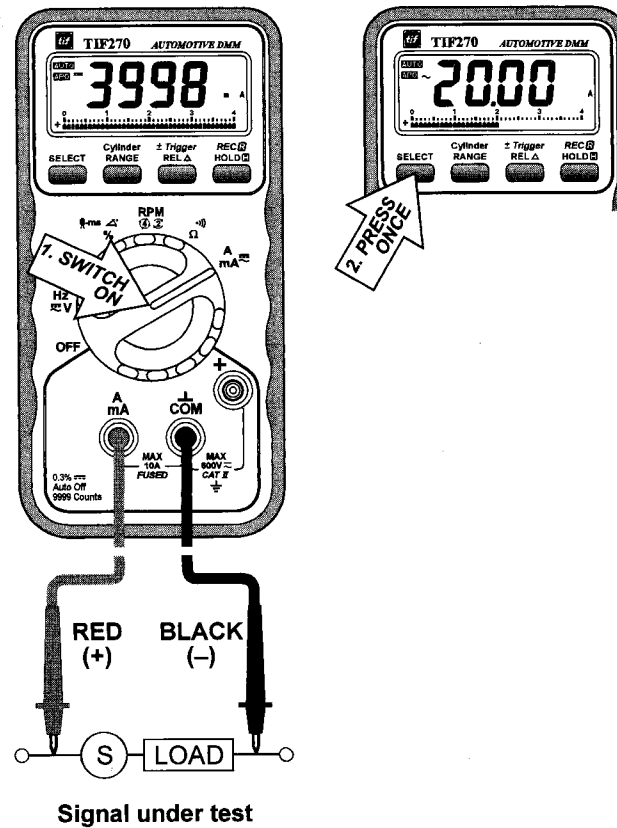

FIG 10. mA, A FUNCTION
- 4) Connect the test leads as shown in **FIG 10** and observe the digital display